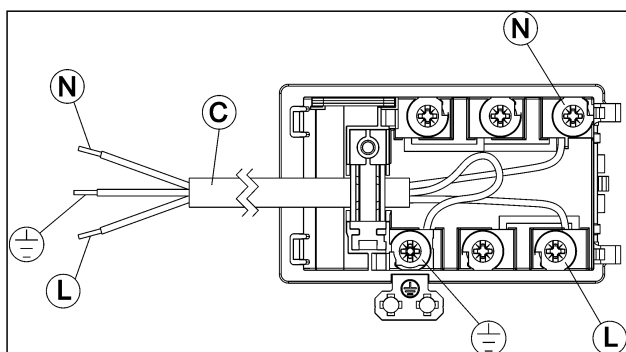

FIG. 8
- If the appliance has no power cable, connect a cable of adequate section to the terminal strip (consult the table on next page) complying with the wiring diagram of fig. 8. This diagram is also affixed to the hot plate.
- fit a standard plug to power cable (if supplied). This plug should be able to bear the load indicated on the data label. Connect the wires according to the diagram in fig. 8, remembering to comply with the following instructions: